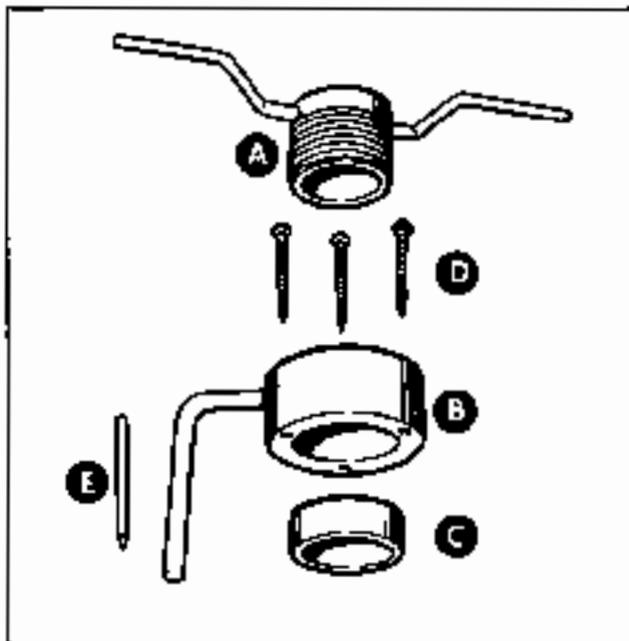
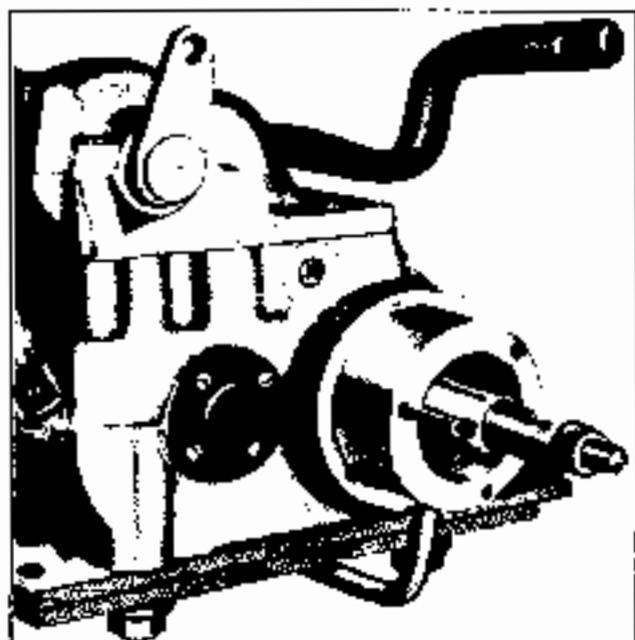

Figure 4-7. Main Drive Gear Oil Seal Tool
Figure 4-8. Centerpunching Screw Hole Locations
MAIN DRIVE GEAR OIL SEAL TOOL. Main Drive Gear Oil Seal Tool, Part No. 95660-42, (See Figure 4-28) (Figure 4-7) enables removing worn or damaged oil seal and installing new seal without removing or disassembling transmission. It may be used on transmission removed from chassis as well. To use, transmission must be assembled with the exception of clutch and countershaft sprocket.
Place sleeve (C, Figure 4-7) on end of main drive gear. Note: Electra-Glide requires 15/16 inch long sleeve, Part No. 95666-42A. Slide body (B) over sleeve with body stop rod downward. Turn body clockwise until stop bears against transmission case or mounting plate. Hold body in this position and insert center punch (E) through each of the three holes in body and center punch oil seal as shown in Figure 4-8.
Insert sleeve (C, Figure 4-7) into oil seal. Place sleeve and seal on main drive gear with lip side of seal toward transmission case. Turn seal so it will not stake at same points old seal was staked.